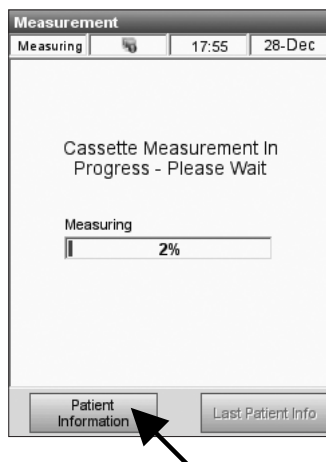

Fig. 5-28 Patient Information
- The sample will then be aspirated and measured (Fig. 5-28).
19. You can again enter patient information while measurement is in progress by pressing **<Patient Information>** (Fig. 5-28). Please follow the steps for patient data entry described under calibration step 12 on p. 5-13.